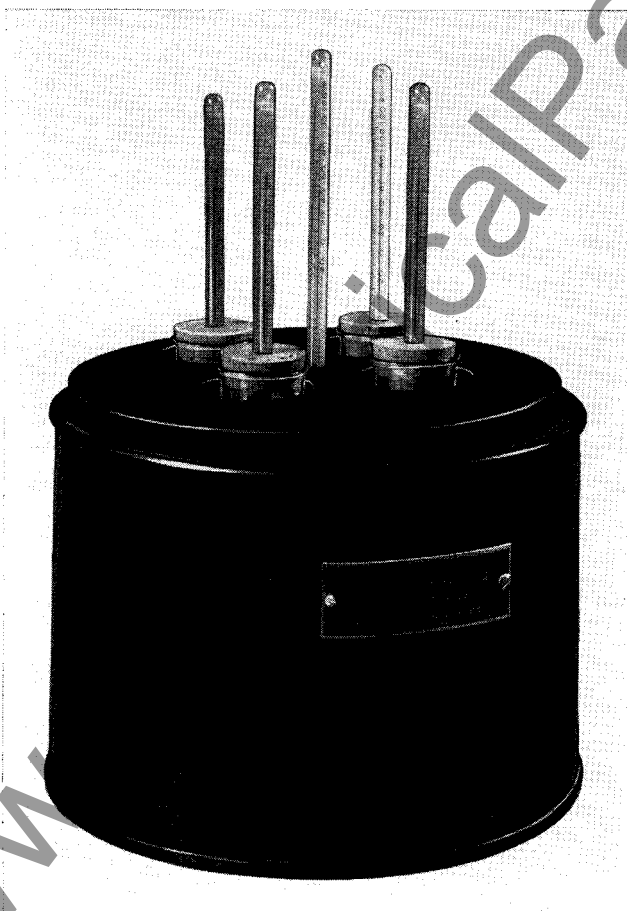

FIG. 4. Apparatus for Pour Test
**Apparatus.** The test jar (see Fig. 4) shall be clear glass, of cylindrical shape, approximately 1¼ in. inside diameter and 4½ to 5 in. high, with a flat bottom. An ordinary 4 oz. Inerteen sample bottle may be used if the test jar is not available.